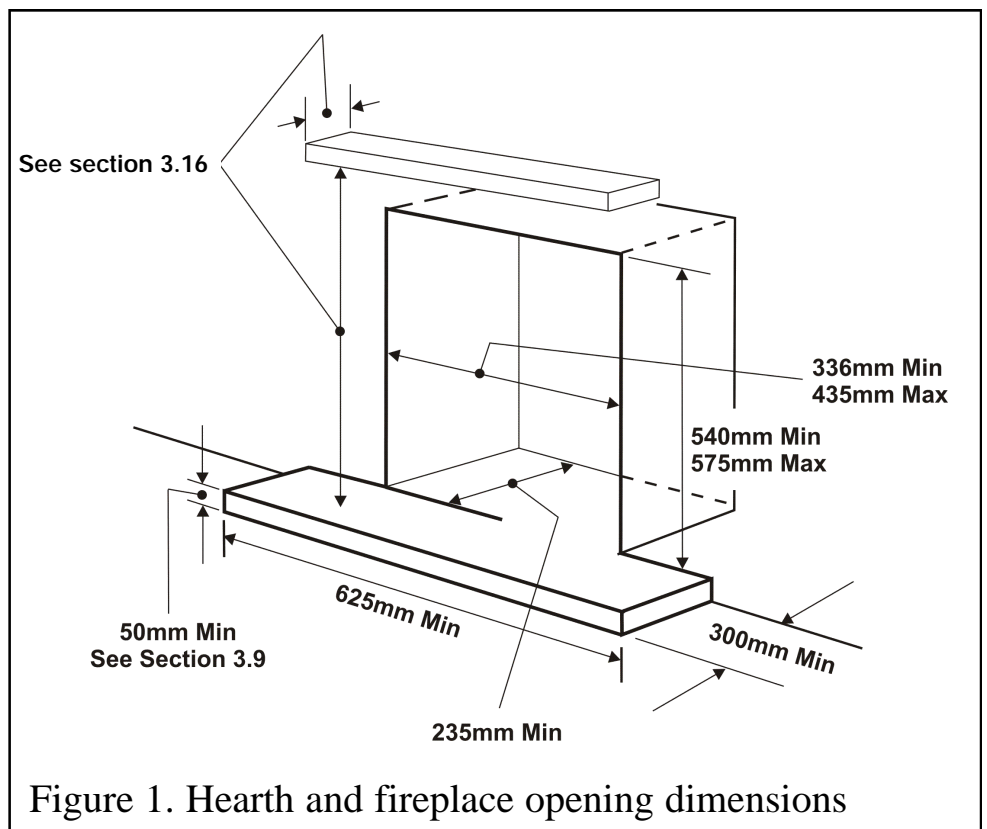

Figure 1. Hearth and fireplace opening dimensions
● It is recommended that a hearth should be installed as in section 3.9 (See figure 1).
3.2.2 To a fireplace incorporating a metal flue box conforming to BS 715 and BS EN 1856 Part 1 with a minimum internal depth of 165mm. Incombustible mineral wool insulation of not less than 50mm thickness must be applied to the top surface of the firebox (See figure 2) and it must stand on a non-combustible hearth (See figure 1).
The appliance must not stand on combustible materials or carpets (See figure 1).